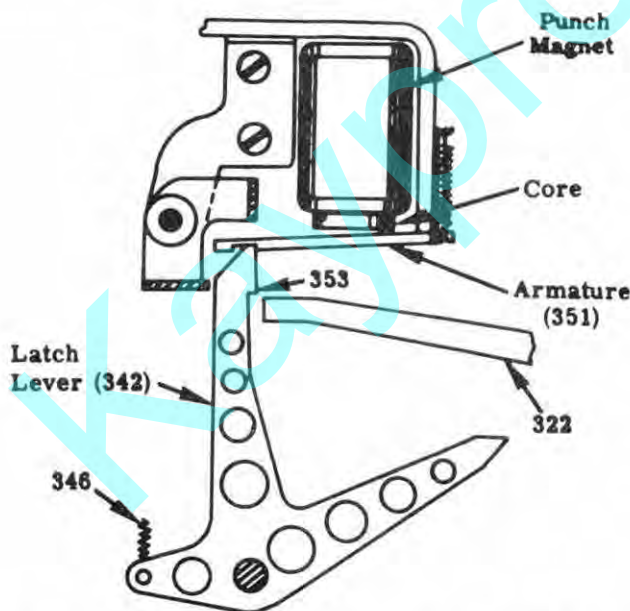

Figure 27- Punch Magnet and Latch Lever
In so doing, the latch lever (342) will pivot in a clockwise direction (Figure 27) because of the tension of spring (346). The point 353 of the latch lever will engage with the tip of punch lever (322).